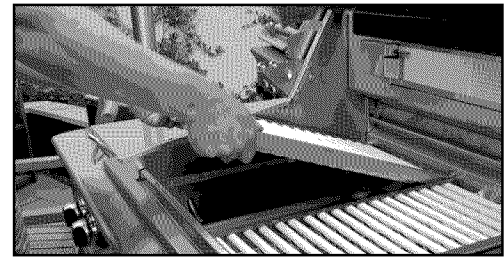

FIG. 38
5. Place the assembled radiant in the unit (Fig. 38).